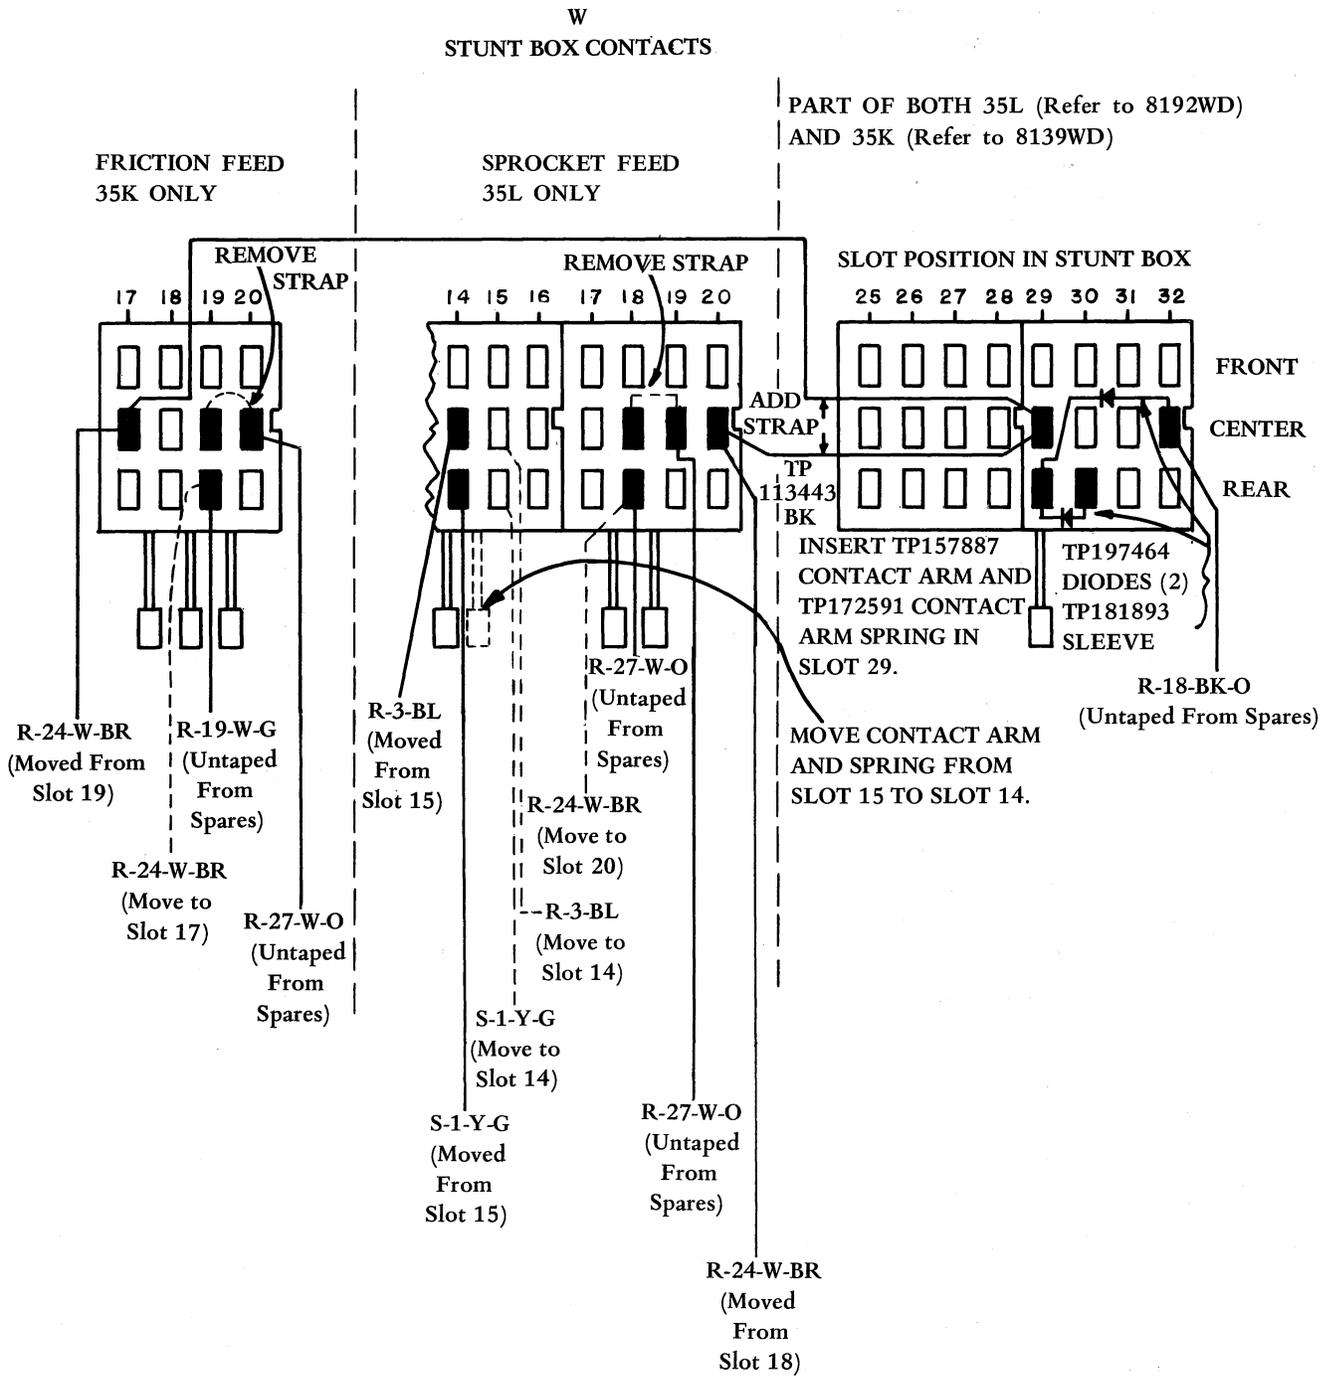

Figure 16 - Typing Unit Wiring
4.22 Rewire stunt box AVA of 35K and AUZ of 35L typing unit and add two diodes per Figure 16. On 35K typing unit AVA (friction feed), remove strap between center terminals of slots 19 and 20. Remove W-BR wire from rear terminal slot 19 and solder it on center terminal slot 17.
4.23 Add strap TP113443 BK from center terminal slot 17 to center terminal slot 29. Untape spare wires and connect W-G to slot 19 rear, and W-O to slot 20 center (Figure 16).
4.24 On 35L typing unit (sprocket feed), remove strap between center terminals of slots 18 and 19. Move BL wire from slot 15 center to slot 14 center. Move Y-G from slot 15 rear to slot 14 rear. Move W-BR from slot 18 rear to slot 20 center (Figure 16).
4.25 Untape spare wires and connect W-G to slot 18 rear, and W-O to slot 19 center. Add strap TP113443 BK from slot 20 center to slot 29 center (Figure 16).
(Figure 16). Install the parts used in slot 17 of stunt box AVA in 35K typing unit, slot 15. Replace pawl TP152653 in slot 16 with TP153598.